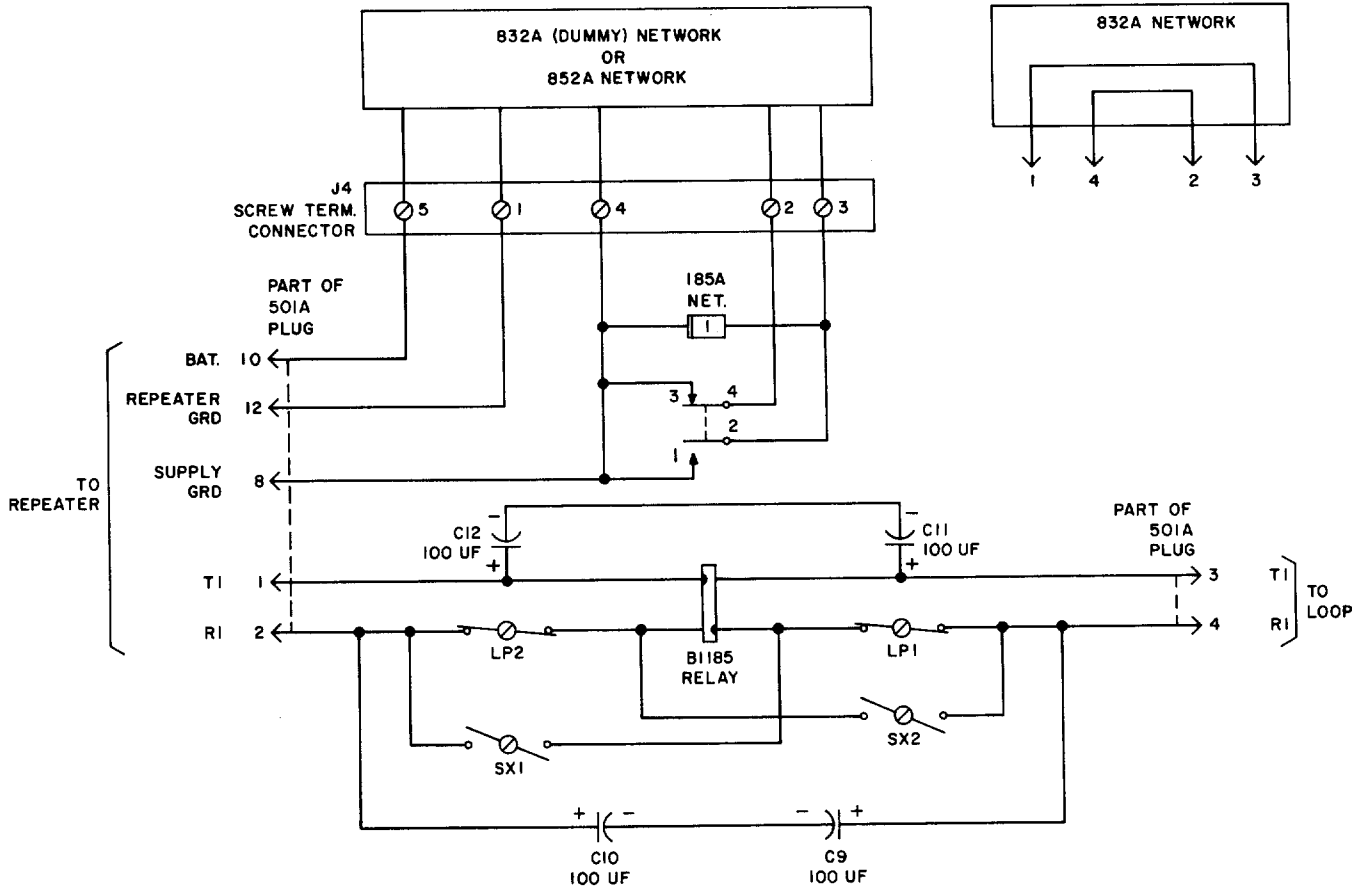

Fig. 1—J99253L Disabler Circuit
**2.01** The J99253L disabler is a single-circuit, relay-type disabler that removes repeater gain from the circuit during idle and circuit-switching periods. The disabler functions by detecting the absence of supervisory current. When no supervisory current is flowing, the disabler relay is in a nonoperated condition and the ground lead to the repeater is open. When supervisory current flows, the disabler relay operates and ground is restored to the repeater. A schematic of the J99253L disabler is shown in Fig. 1.